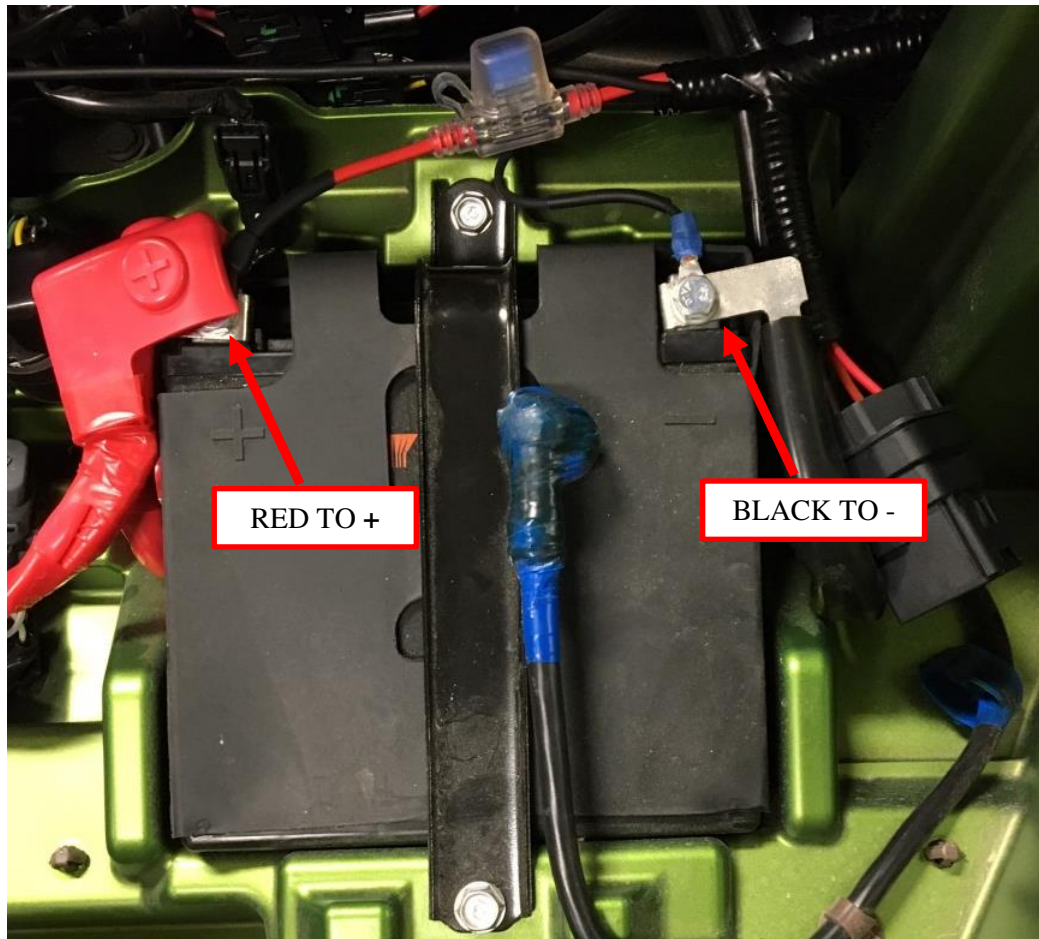

Figure 14: Battery cable connections.
12. Connect the chassis harness battery cables to the battery. Remove the battery bolts from each terminal as you connect the cables, and replace the bolts with the provided M6 x 1.0 x 14 mm battery bolts to clamp the cables on top of the existing cables. Connect the red harness wire to the terminal with the existing red battery cable (+ 12V). Connect the black harness wire to the terminal with the existing black battery cable (- 12V). See Figure 14.